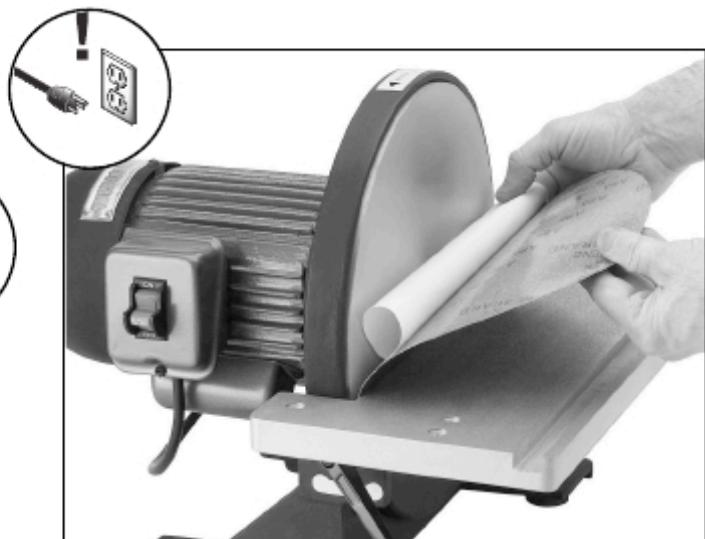

Figure 5. Sandpaper being slipped between the disc and table.
2. Slip the half with the protective layer between the disc and the table edge (**Figure 5**).